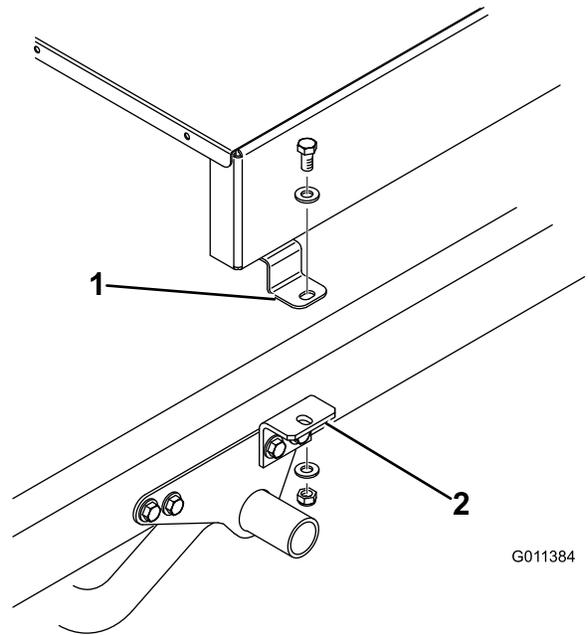

**Figure 9**
- 7. Secure each rear mounting bracket to the frame of the Workman vehicle with a clevis pin and 2 lynch pins (Figure 9).